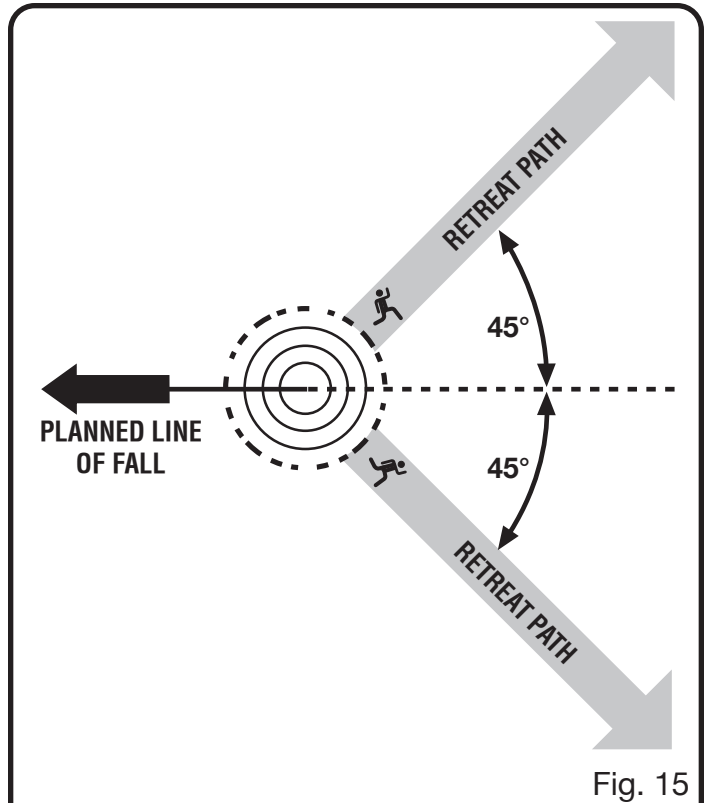

Fig. 15
See Figure 15.
See Figures 15 - 18.
- Before any cuts are started, pick your escape route (or routes in case the intended route is blocked); clear the immediate area around the tree and make sure there are no obstructions in your planned path of retreat. Clear paths of safe retreat should extend back and diagonally (45°) to the rear of the planned line of fall. When the tree begins to fall, you should retreat away from the direction of fall along a retreat path and at least 20 feet away from the trunk in case it kicks back over the stump. *See Figure 15.*